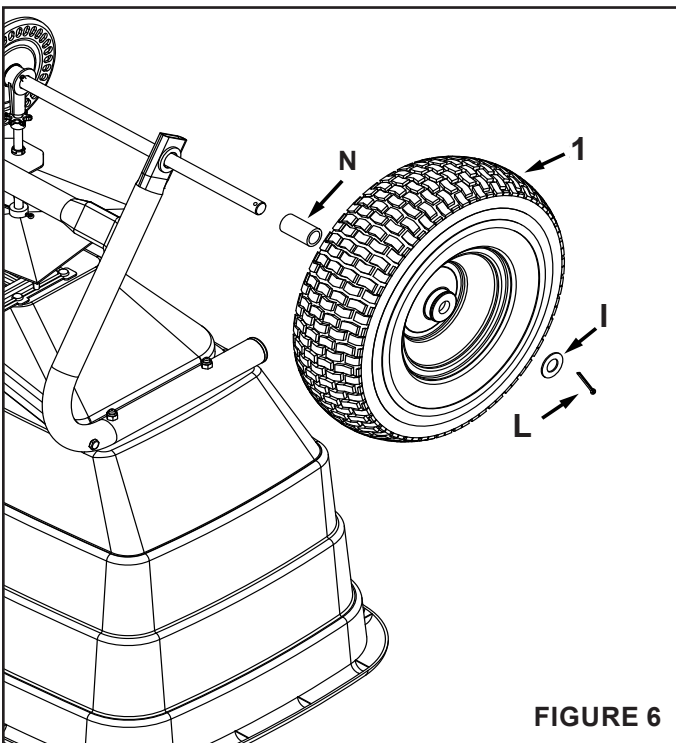

FIGURE 6
STEP 6: (SEE FIGURE 6)
- Attach a wheel to the right side of the axle by sliding a spacer (N) onto the axle, followed by a wheel (1) and a large washer (I). Secure using a small cotter pin (L) through the hole at the end of the axle. Bend the ends of the cotter pin around the axle. See figure 6.